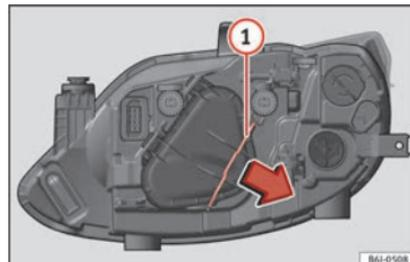

Fig. 91 Single headlight.
- Move the loop » Fig. 91 ① in the direction of the arrow and remove the cover.